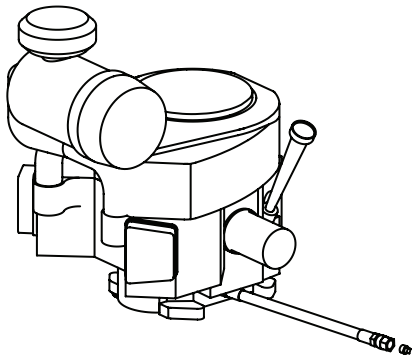

Fig. 21
2. Locate the oil drain hose on the engine (Fig. 21).
4. While holding the free end of the oil drain hose over the oil collection container, unscrew the square-head hose plug from the end of the hose (Fig. 21). Drain the engine oil into the collection container.